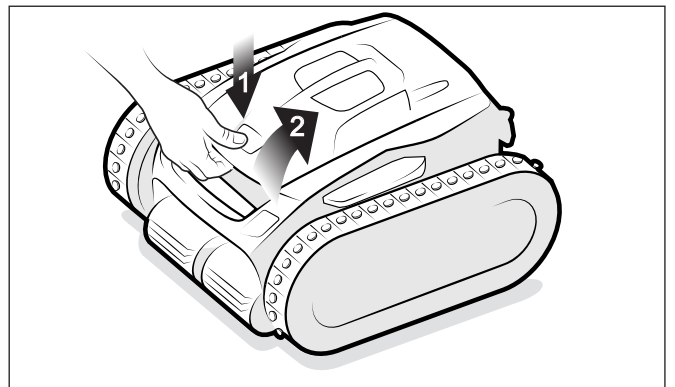

**Figure 12. Untangle**
4. Remove the cleaner from the pool and untangle all kinks and coils in the power cable (Figure 12). Start at the cleaner head. Lay the cable in the sun to loosen any tangling memory.